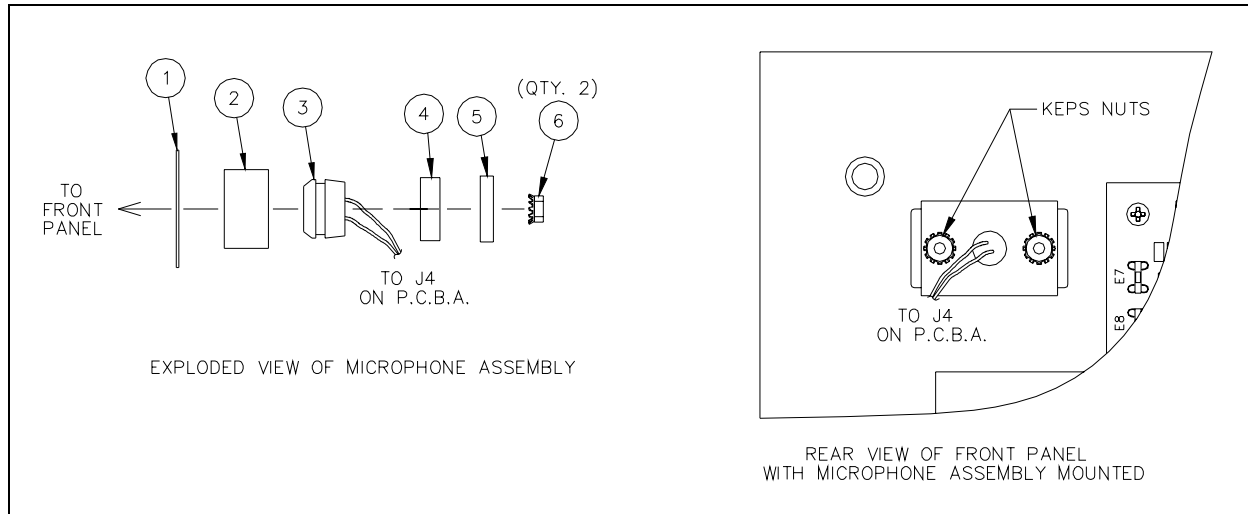

Figure 1. Microphone Assembly
- Remove the 2 KEPS nuts from the microphone assembly and lift old microphone off the front panel. Carefully remove old microphone grille. See Figure 1.
Refer to Figure 1.